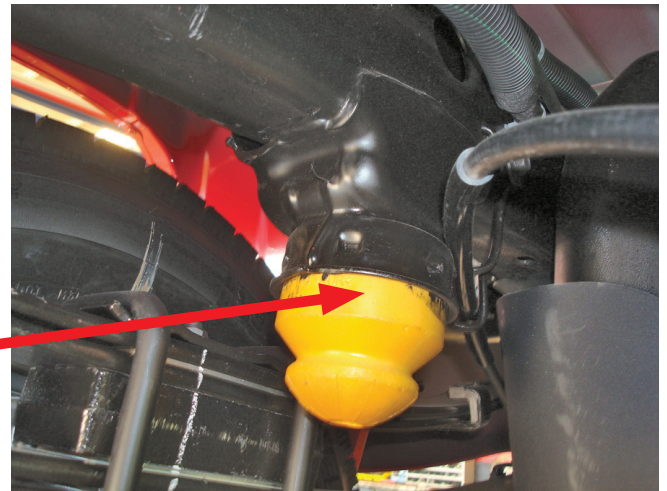

Fig. 2
2. Remove the jounce bumpers from the jounce bumper brackets on both sides by prying them out with a pry bar or large screwdriver (Figs. 2 & 3).